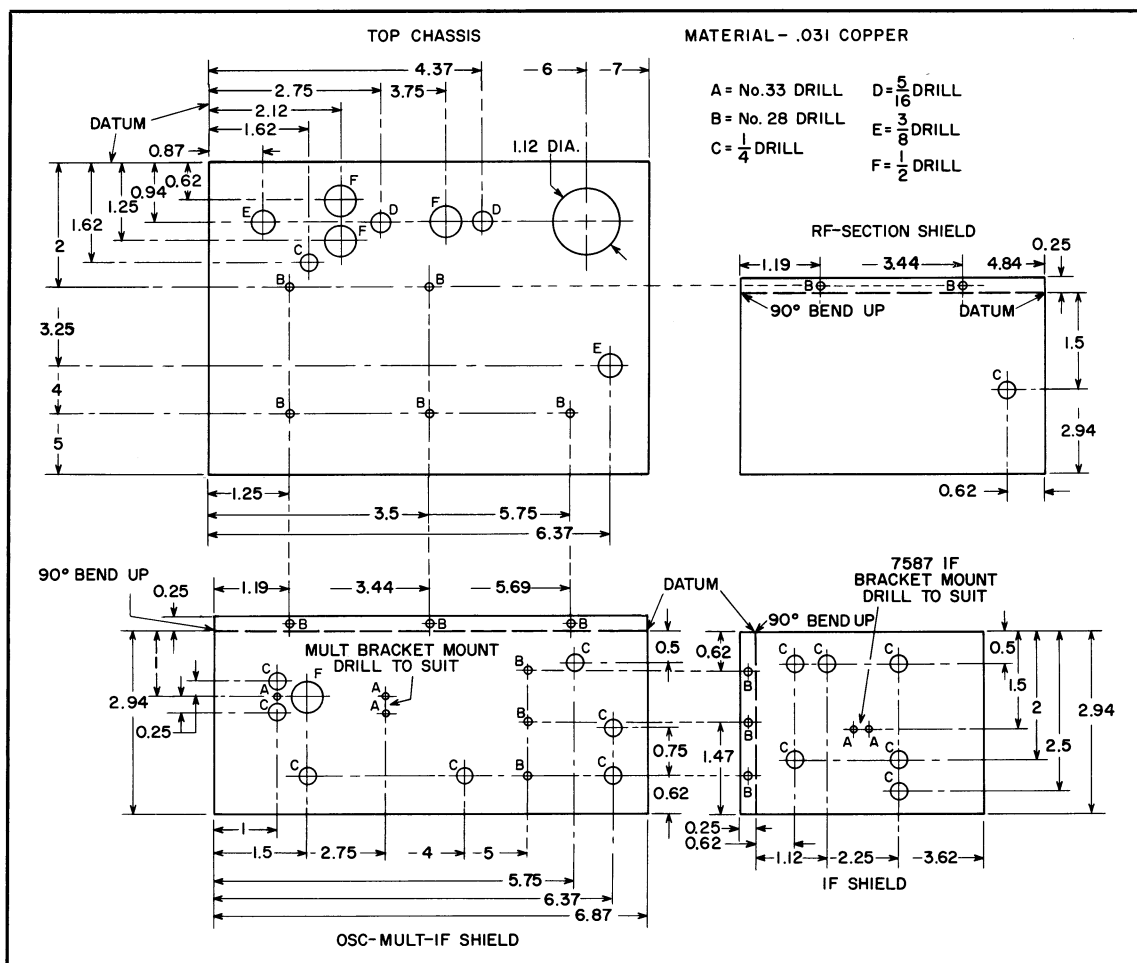

Figure 5: Converter shield layouts and material specifications.
A 5-by-7-by-3-inch aluminum chassis is used as an enclosure (see Figure 1). In the author's experience, thin copper with soldered joints provides the best chassis and shield material. The various shield layouts are illustrated in detail in Figure 5.
In the home receiver, there are several sources that may be tapped, four of which are diagrammed in Figure 5. If the receiver employed in conjunction with this converter uses a center-tap grounded heater-voltage supply, the circuit shown in Figure 5(A) cannot be used. A careful check of the receiver schematic will be necessary to decide which power source is best suited. In any case, the total power drain is so low that there is no danger of overloading the receiver.